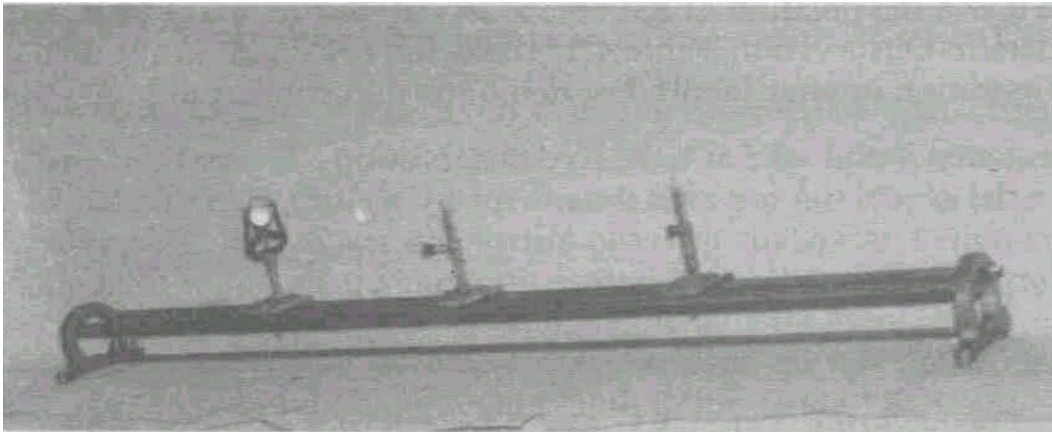

Fig.4.3 Experimental arrangement for determination of focal length of a concave mirror
2. Refer to Fig.4.3. It shows the experimental arrangement for the determination of focal length of a concave mirror. You have to mount various uprights holding pins and the mirror accordingly.